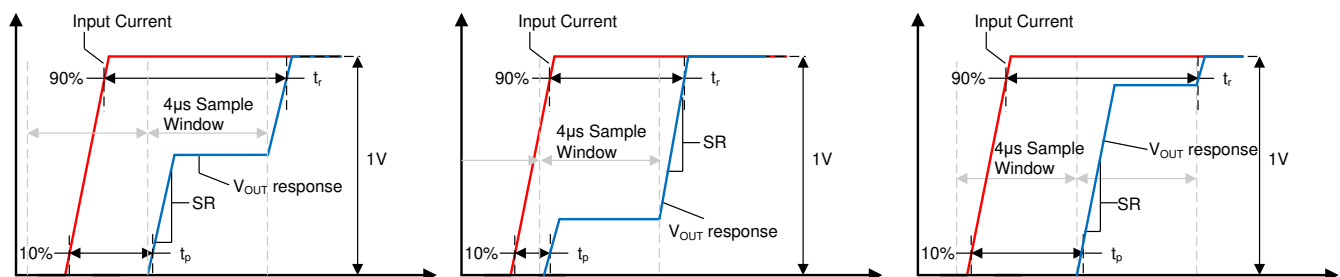

图 8-3. Small Current Input Step Transient Response
Slew rate (SR) is defined as the V_{OUT} rate of change for a single integration step's output transition, as shown in 图 8-3. Because the device often requires two sampling windows to reach a full 90% settling of its final value, this slew rate is not equal to the 10%-90% transition time for the full output swing.
Propagation delay is the time period between the input current waveform reaching 10% of its final value and V_{OUT} reaching 10% of its final value. This propagation delay is heavily dependent upon the alignment of the input current step and the sampling period of the TMCS1107-Q1, as shown for several different sampling window cases in 图 8-3.
Response time is the time period between the input current reaching 90% of its final value and the output reaching 90% of its final value, for an input current step sufficient to cause a 1-V transition on the output. 图 8-3 shows the response time of the TMCS1107-Q1 under three different time cases. Unless a step input occurs directly during the beginning of one sampling window the response time will include two sampling intervals.